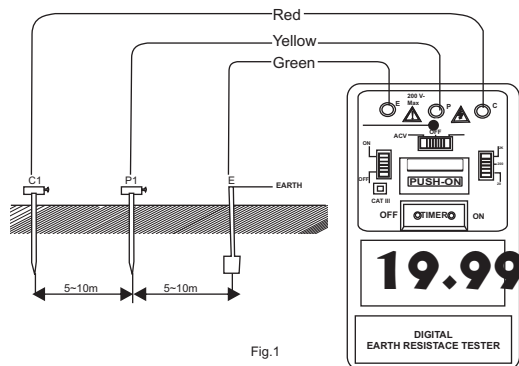

Fig.1
Connect green, yellow and red test leads to instrument terminals E, P and C with auxiliary earth bars P1, C1 driven into earth "IN A STRAIGHT LINE"; (Fig.1)
- ★ : Follow the proper connection such as Fig. 1, the LED (red) indicator will lit. This proves a correct current circulation is under its operation.